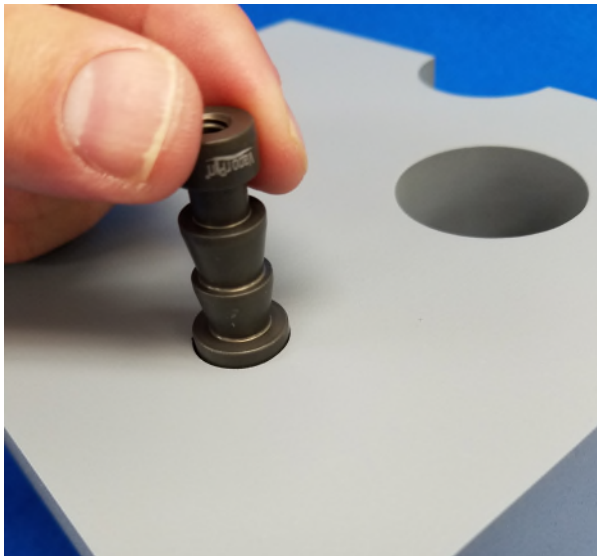

Figure 3. Testing the Hole Diameter
- 5) Ensure the diameter of the hole will accommodate the Mini Vapor Pin® by inserting the top of the Mini Vapor Pin® into the hole. It should be easily inserted (Figure 3). If the Mini Vapor Pin® is tight, ream the hole with the bit and re-try.